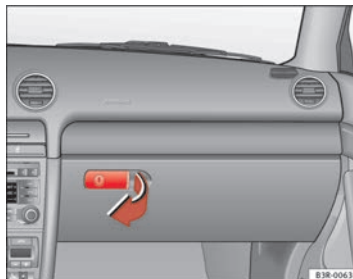

Fig. 128 Glove compartment
- Pull the handle on the lid in the direction indicated (arrow) ⇒ fig. 128 and open the lid.
- Open the glove compartment ⇒ page 151, fig. 128.